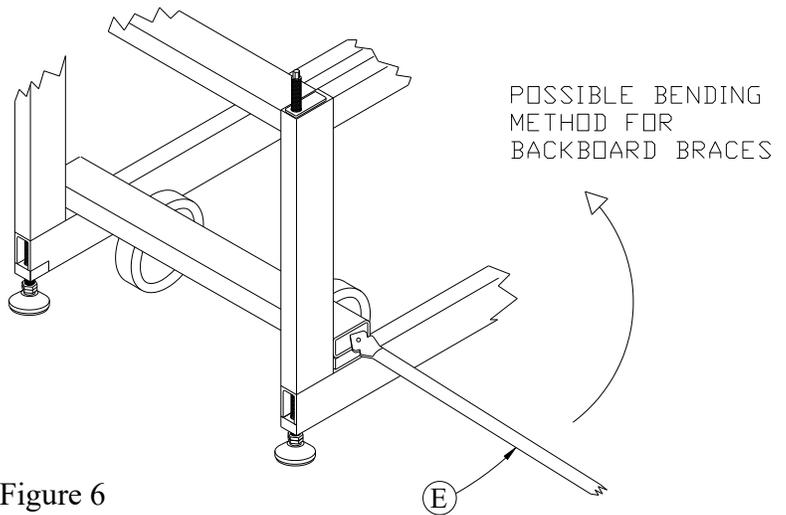

Figure 6
7. Adjust the *Breakaway Goal* (L) and the *Backboard* (J) until they are level. Tighten the *Breakaway Goal Hardware* (M) making sure that the *Backboard* (J) remains level left to right and perpendicular to the floor.
8. Without attaching *Backboard Braces* (E) to the unit, raise the goal to the official playing position.
9. Measure the *Breakaway Goal* (L) height and if necessary adjust the two front *Foot Pads* (B) up or down equally as needed to get the front of the rim to an official 10' height. Make sure that the entire *Portable Base* (A) is still level left to right.
10. If the *Backboard* (J) is perpendicular to the floor **and** if the *Backboard* (J) **and** *Breakaway Goal* (L) are level in every direction **and** the *Breakaway Goal* (L) is at 10', lower the unit to the storage position.
11. On backboard corners install "*L*" *Brackets* (C) with 3/8" carriage bolts, flat washers and hex nuts included with the *Backboard Hardware* (K). **Leave hardware finger tight only.** The brackets need to rotate to fit with *Backboard Braces* (E).
12. In order to attach the *Backboard Braces* (E) you will have to bend one end of the *Backboard Braces* (E) that attach to the extension arm. This is best accomplished with a vice, however if one is not available you can use the opening indicated in figure 6 to bend the brace. The brace should be bent at such an angle that the unbent ends of the *Backboard Braces* (E) fit securely to the "*L*" *Brackets* (C).